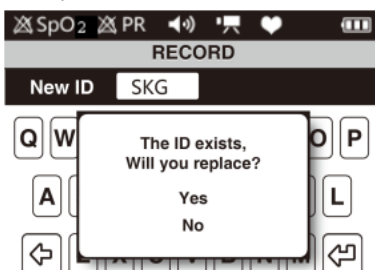

Figure 17. Replace the existed ID dialog box
- c. If the inputted ID has existed, the prompt dialog box as figure 17 will appear. Choose “Yes” and click menu button to replace the existed ID, at the same time begin to record and return to the measure interface; choose “No” to return the “Input ID” interface.